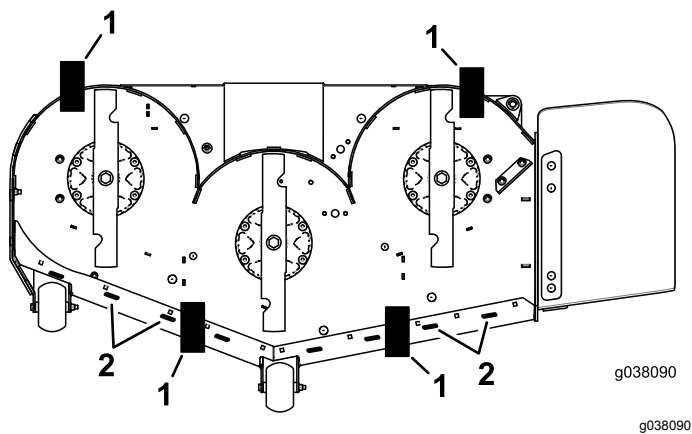

**Figure 82**
- B. Slowly loosen the adjusting screw on the lift-assist spring until you can remove the screw (Figure 82).